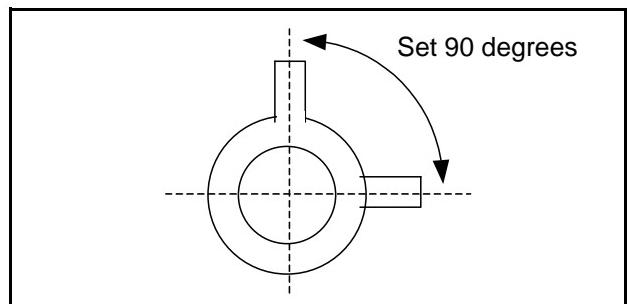

Figure 25. Four-pole magnet
4. Set each longer knob of four-pole magnet to 90 degrees (see Figure 25 / No corrective condition).